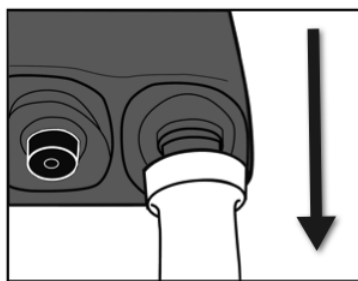

Figure 46: Remove white driveline cover
4. Pull back the white driveline cover from **original controller’s** silver connector (Figure 46).